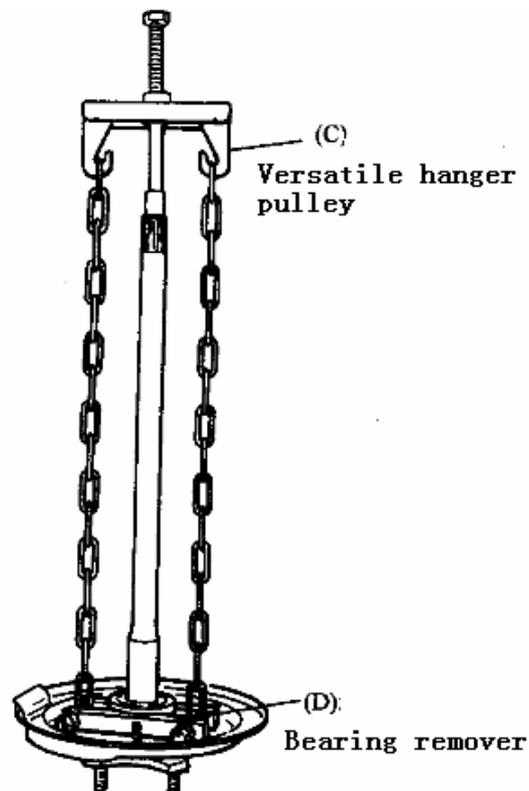

FIG.13-13
(4) After removing bearing and half-axle spacer by using special tools C and D, remove brake back plate (FIG.13-13)